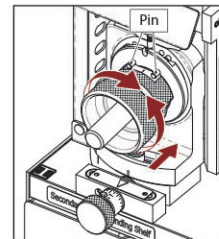

Fig. 8-1
1. 3 Flute Secondary Relief Grinding (I) (Fig. 8-1)